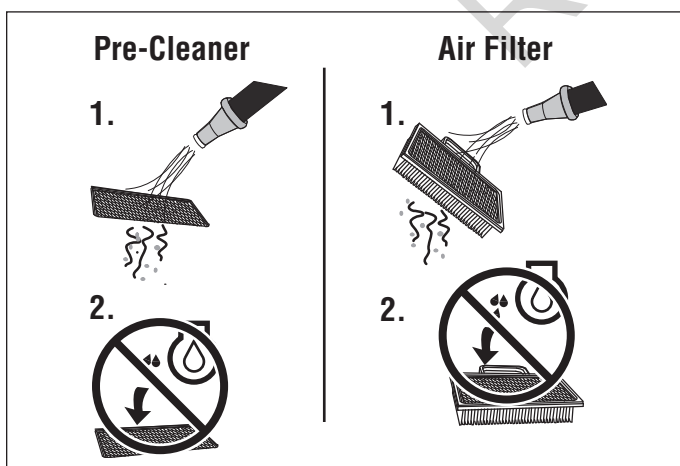

Figure 28. Air Filter Service
1. Figure 28. Wash the pre-cleaner in liquid detergent and water.
1. Figure 28. If stamped "Washable," the filter can be washed with warm water and mild soap.